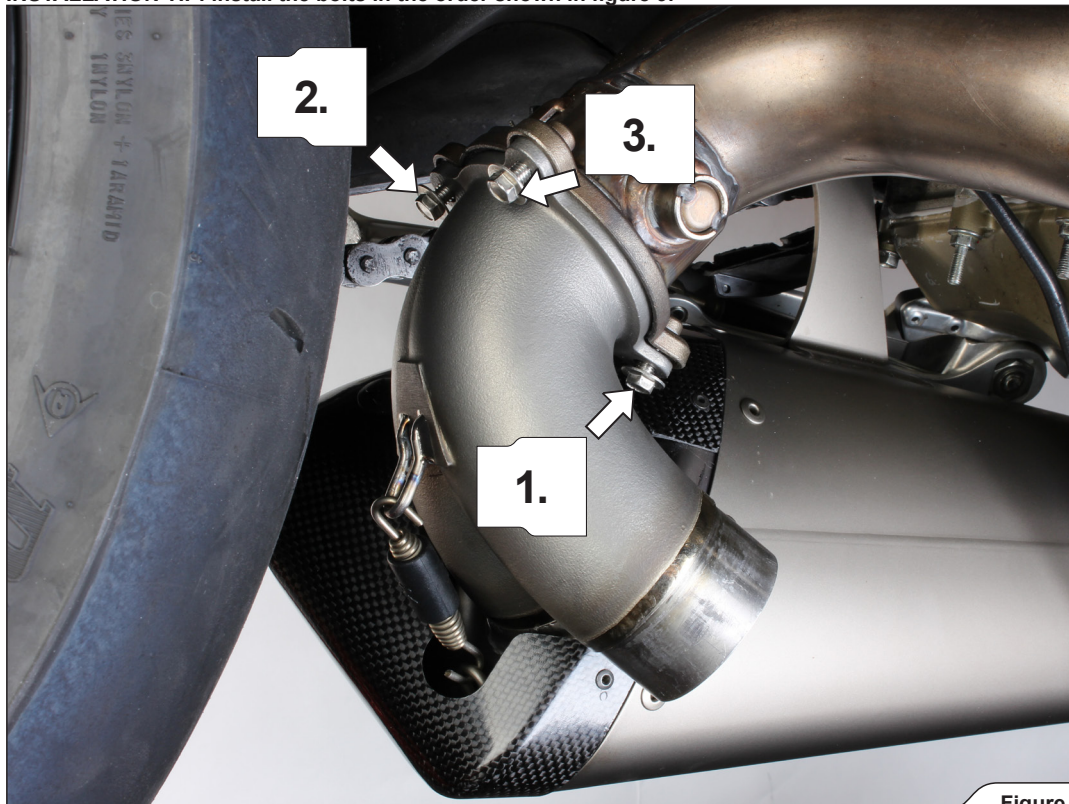

Figure 9
3. Install the left muffler with collector onto the motorcycle and hand tighten the collector onto the stock pipe, using bolts from Akrapovič installation kit (**Figure 9**).
✂ INSTALLATION TIP: install the bolts in the order shown in figure 9.